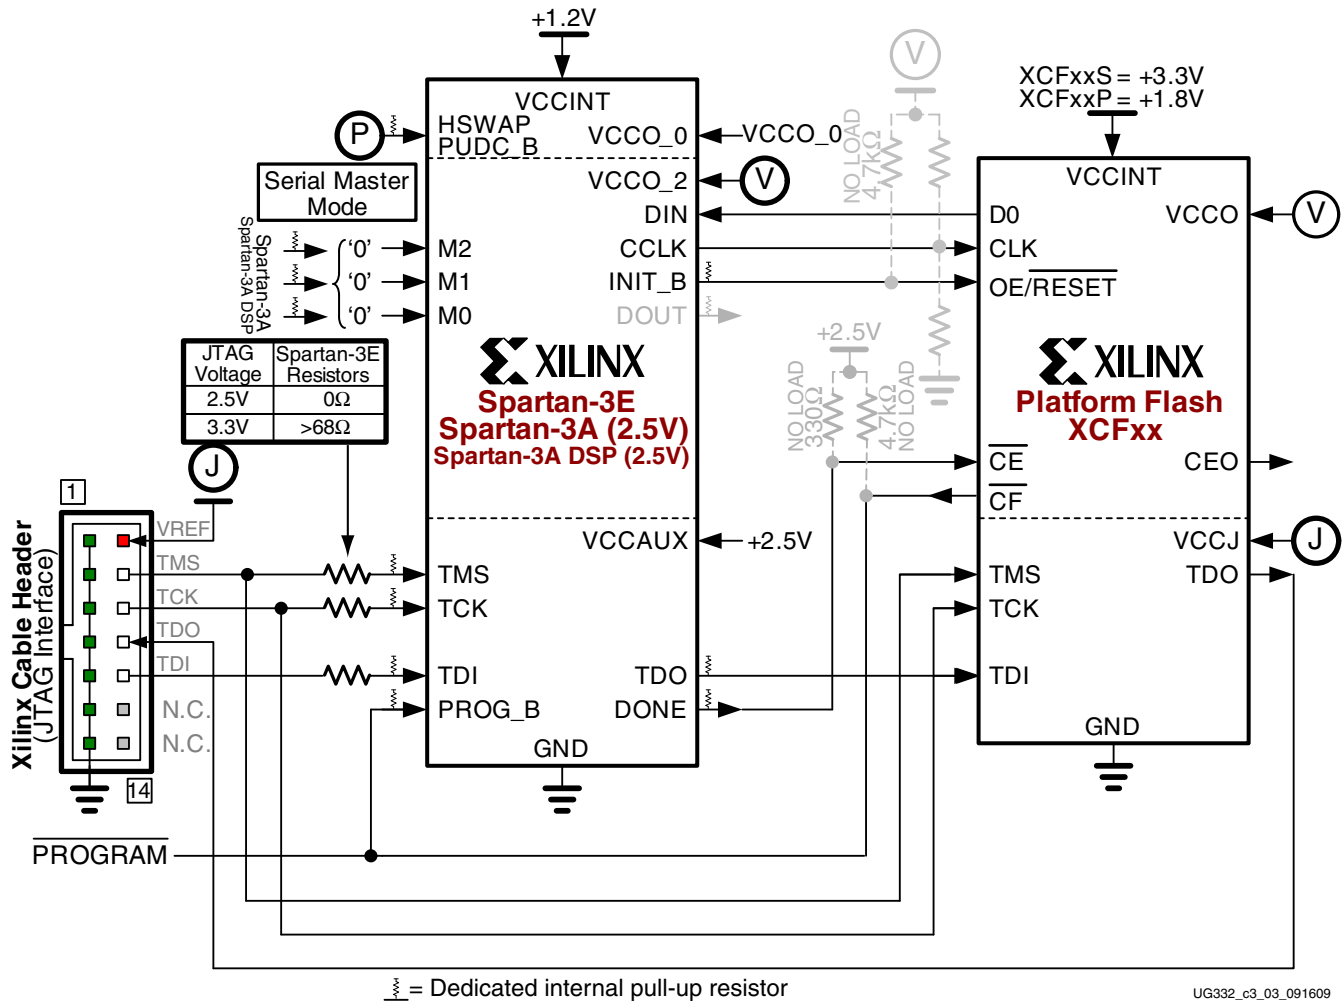
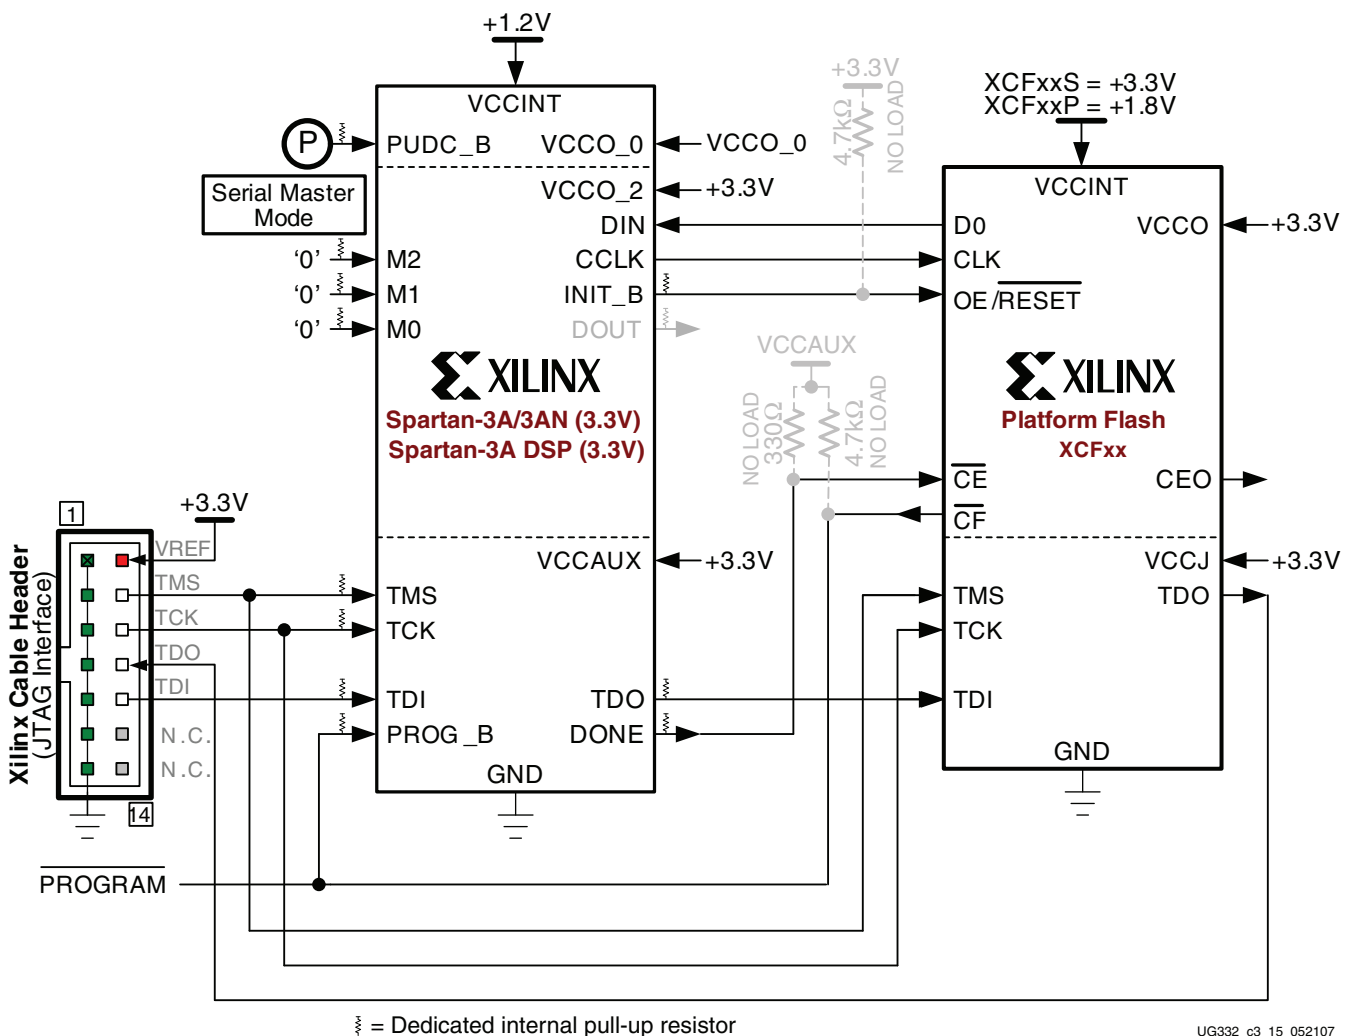
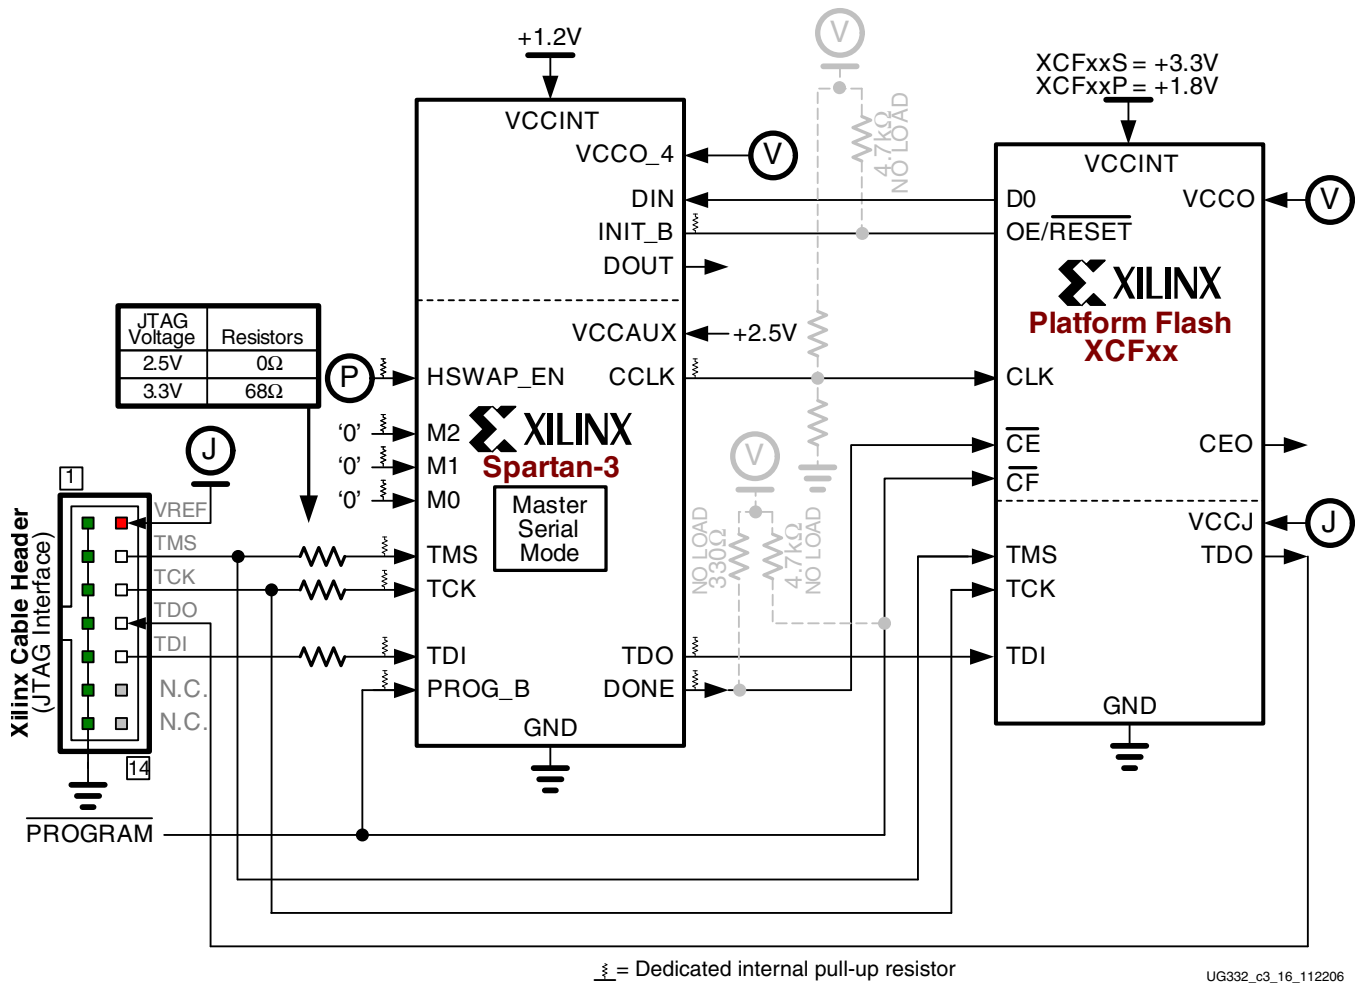

Figure 3-1: Master Serial Mode Using Platform Flash PROM (Spartan-3E or Spartan-3A/3A DSP FPGA, $V_{CCAUX} = 2.5V$)
Figure 3-2: Master Serial Mode Using Platform Flash PROM (Extended Spartan-3A Family FPGA, $V_{CCAUX} = 3.3V$)
Figure 3-3: Master Serial Mode Using Platform Flash PROM (Spartan-3 FPGA)
In Master Serial mode ($M[2:0] = <0:0:0>$), the Spartan-3 generation FPGA configures itself from an attached Xilinx Platform Flash PROM, as illustrated in Figure 3-1, Figure 3-2, and Figure 3-3.
- Figure 3-1, page 80 illustrates the Master Serial configuration interface for Spartan-3E and Spartan-3A/3A DSP FPGAs when the FPGA's V_{CCAUX} supply is at 2.5V. Spartan-3E FPGAs always have $V_{CCAUX} = 2.5V$. Spartan-3A and Spartan-3A DSP FPGAs support both $V_{CCAUX} = 2.5V$ or 3.3V. Table 3-1, page 80 lists the FPGA/PROM connections.
- Figure 3-2, page 81 illustrates the Master Serial configuration interface for Extended Spartan-3A family FPGAs when $V_{CCAUX} = 3.3V$. Spartan-3AN FPGAs always have $V_{CCAUX} = 3.3V$. Table 3-1, page 80 lists the FPGA/PROM connections.
- Figure 3-3, page 82 illustrates the Master Serial configuration interface for Spartan-3 FPGAs.